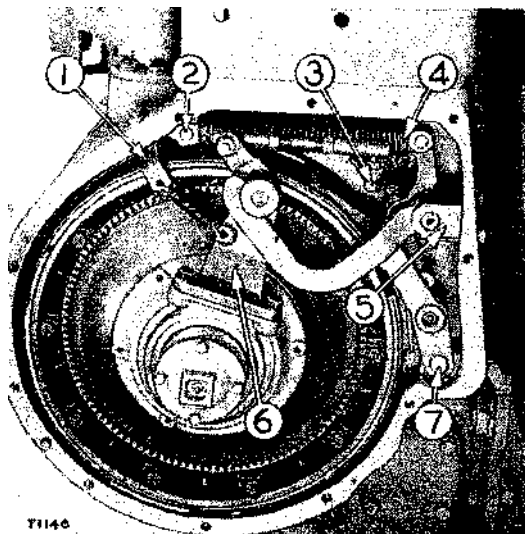
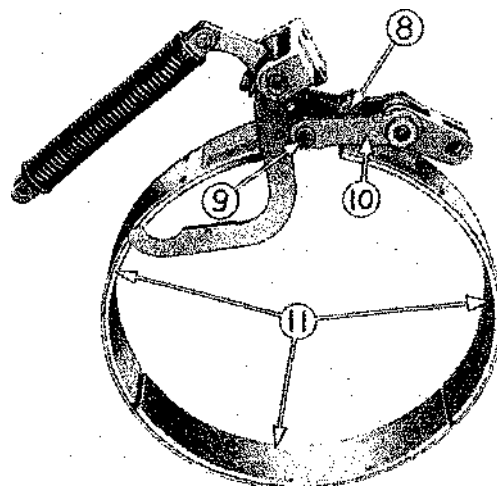

FIGURE 17—REMOVING
FIGURE 18—BRAKE BAND
- (4) Assemble the clutch engagement mechanism and release the brake spring in the reverse order of disassembly.
- (5) Replace the clutch and brake drum cover, making sure to remove the pin holding the brake spring in compression before doing so.
- (6) Adjust the brake and clutch as outlined in paragraph 6.
9. BRAKE LINING REPLACEMENT.**A. Disassembly.** (See figures 17 and 18.)
(7) Remove the brake lever pin from the anchor (5), the brake adjusting nut and the capscrews on the outside of the housing which hold the anchor (5) in place. Remove the brake band, control mechanism and anchor.
(8) Remove pins (8) and (9) to remove the lever and links from the band assembly.
B. Brake Lining. (See figure 18.)
(1) The brake linings (11) are of the moulded type.
(2) Carefully install the linings to avoid distortion of the band.
C. Assembly. (See figures 17 and 18.)
(1) Assemble the brake band in the reverse order of disassembly making sure to install link (10) with the cut out portion facing downward.
(2) Install brake lever anchor (5) using the shortest of the three capscrews at the top to eliminate interference with the lever.
(3) Install the cover and adjust the brake and clutch as outlined in paragraph 15.